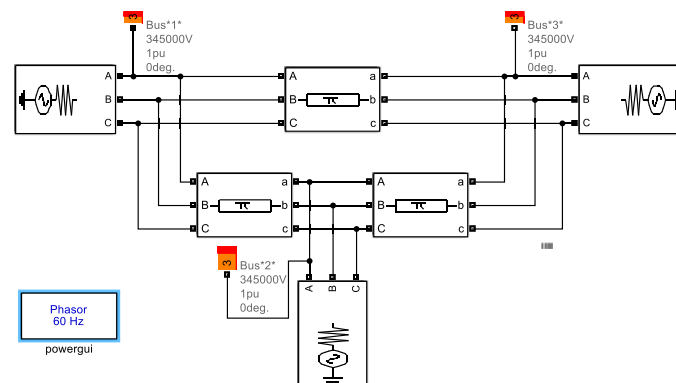

Figure 1 Three-bus transmission system example in Simscape
3. Clicking the button **Add bus blocks**, results in the Load flow bus labels (red flags) being inserted next to each bus according to Figure 1.